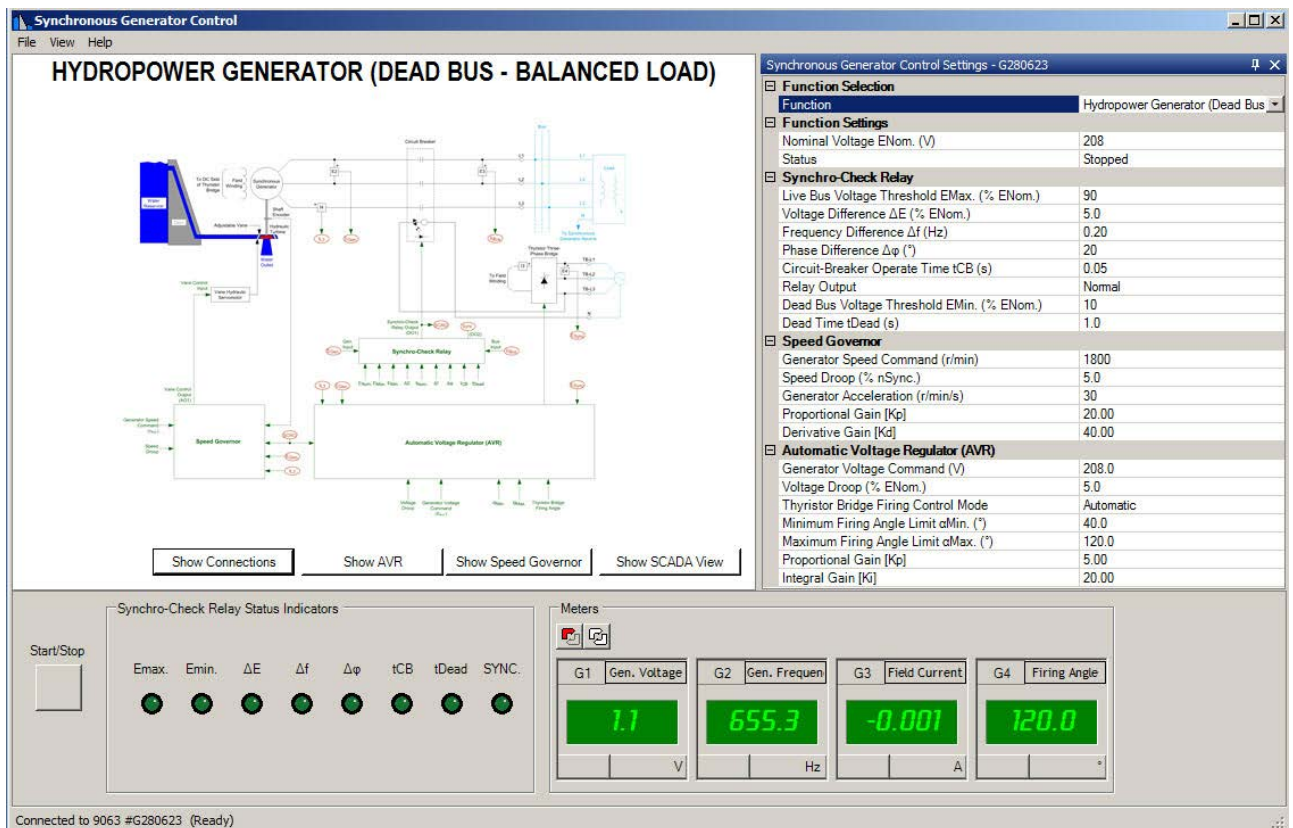

Figure 13: Synchronous Generator Control window, when the function Hydropower Generator (Dead Bus – Balanced Load) is selected.
14. With advanced functions, such as the Hydropower Generator (Dead Bus – Balanced Load) function in the Synchronous Generator Control window, several buttons may appear below the circuit diagram, as shown in Figure 13.